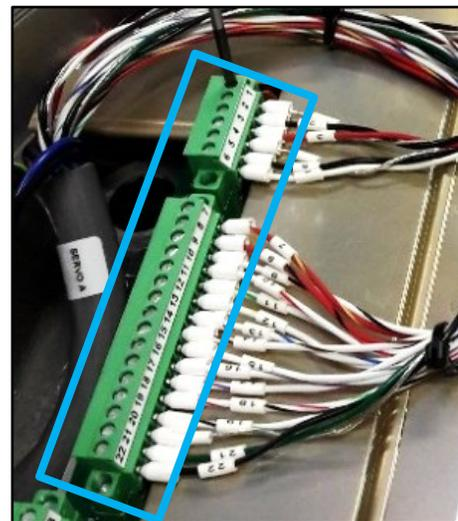

Figure 2-15. Signals Connector Placement Inside VariStroke
34. Unscrew cables from VariStroke terminals **#1 to 22** (use slotted screwdriver; **2.5 X 0.4 mm** tip size) (Figure 2-15).